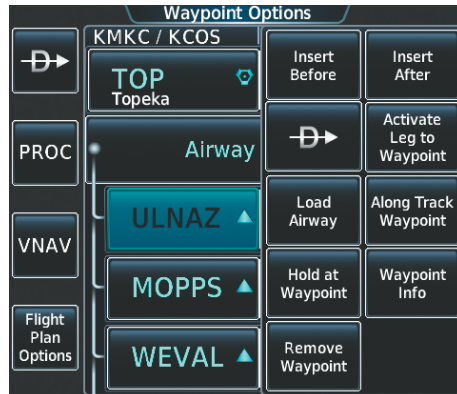

Figure 5-158 Activating V4 Leg
- a) Touch the **ULNAZ** Button to display the Waypoint Options Window as shown in Figure 5-158.